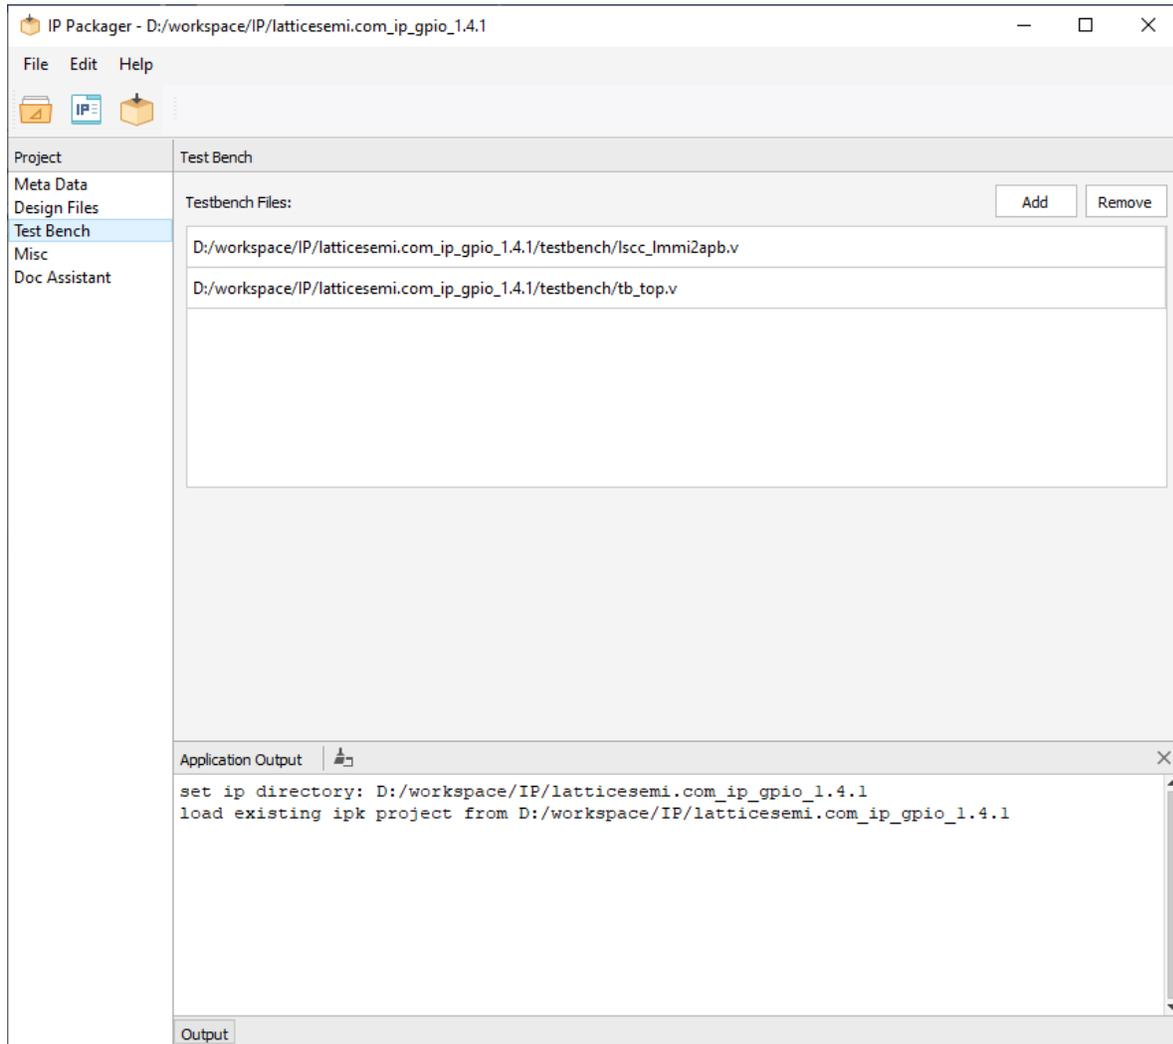

**Figure 3.25. IP Packager with Design File Details**
- From the IP Packager Project area, click **Design Files**. IP Packager GUI shows the Design Files information (Figure 3.25).